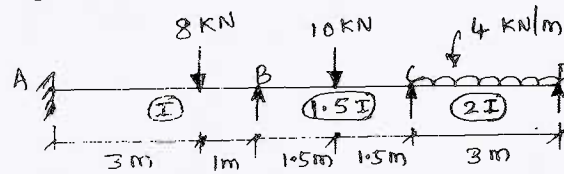

Fig.Q5
- 5 Analyse the continuous beam shown in Fig.Q5 by Kani's method. Draw Bending Moment Diagram, Shear Force Diagram and Elastic Curve. (20 Marks)